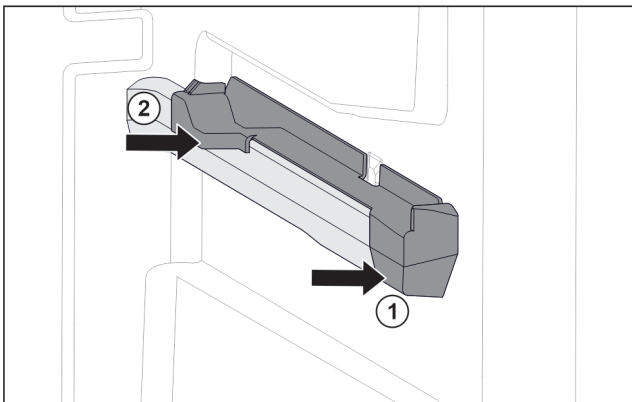

Fig. 77 Attachment on the right moulded rib
- ▶ Position attachment on moulded rib at the front. Fig. 77 (1)
- ▶ Press on attachment at the back. Fig. 77 (2)